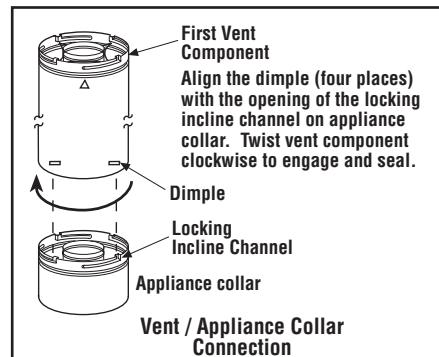

Figure 26
A. Frame ceiling opening - Use a plumb line from the ceiling above the appliance to locate center of the vertical run. Cut and/or frame an opening, 10-1/2" x 10-1/2" (267mm x 267mm) inside dimensions, about this center mark (**Figure 26**).
B. Attach vent components to appliance - Secure Vent® SV4.5 Direct-Vent system components are unitized concentric pipe components featuring positive twist lock connections (see **Figures 26 and 27**).
To attach a vent component to the appliance collar, align the dimpled end over the collar, adjusting the radial alignment until the four locking dimples are aligned with the inlet of the four inclined channels on the collar (refer to **Figure 26**). Push the vent component against the collar until it fully engages, then twist the component clockwise, running the dimples down and along the incline channels until they seat at the end of the channels. The unitized design of the **Secure Vent** components will engage and seal both the inner and outer pipe without the need for sealant or screws. If desired a #6 x 1/2" screw may be used at the joint, but it is not required as the pipe will securely lock when twisted.